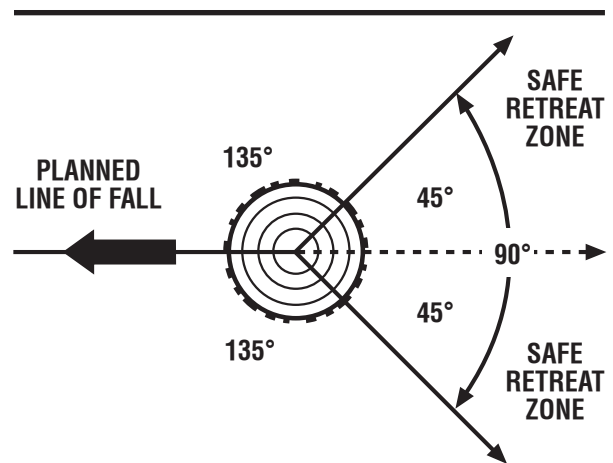

Fig. 13
- Before any cuts are started, pick your escape route (or routes in case the intended route is blocked); clear the immediate area around the tree and make sure there are no obstructions in your planned path of retreat. Clear path of safe retreat approximately  $135^\circ$  from planned line of fall. The retreat path should extend back and diagonally to the rear of the expected line of fall. *See Figure 13.*